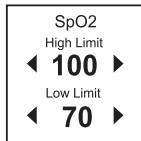
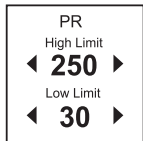

Fig.4-4
Fig.4-5
4.1.2 Tap "Indication Limit Setting" you can set the indication limits of SpO₂ (**Fig.4-4**) and PR (**Fig.4-5**).